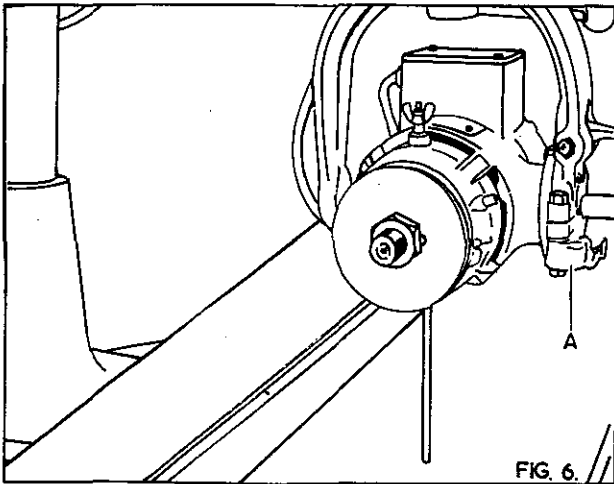

FIG. 6.
3. Secure a small dia. rod between saw flanges as shown in Fig. 6 then raise or lower arm until end of the rod almost touches table.